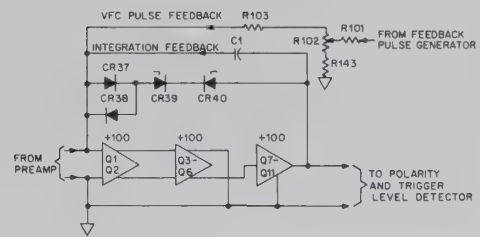

Figure 3-4. Integrator Functions
**3-39. INTEGRATOR.** The integrator is actually an operational amplifier that consists of three amplifiers, all with gains of +100. (See Figures 3-4 and 5-6.) The first two amplifiers have differential input and differential output. The inversion required by the integrator design is provided by cross-coupling the outputs of the second amplifier to ground and to the input stage of the third amplifier. Circuit details of the individual amplifiers are discussed in the following paragraphs.